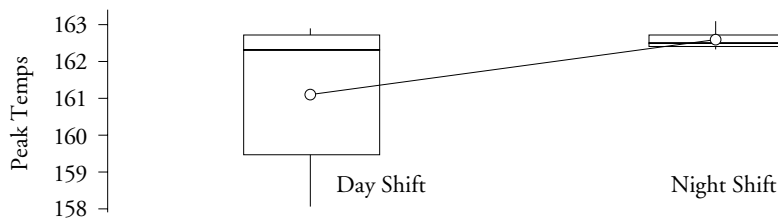

Figure 7: Boxplots of Peak Reflow Temperatures by Shift
**Example Seven:** Another supplier collected reflow peak temperature data by shift, but filed the data away. The boxplots in Figure 7 show an actionable difference between shifts. If the night shift values are correct, the day shift has been tampering with the process. If the day shift has not been overadjusting the process, then the night shift has been faking the data. Either way, something needs to be fixed here. *Plot the data. Take action.*